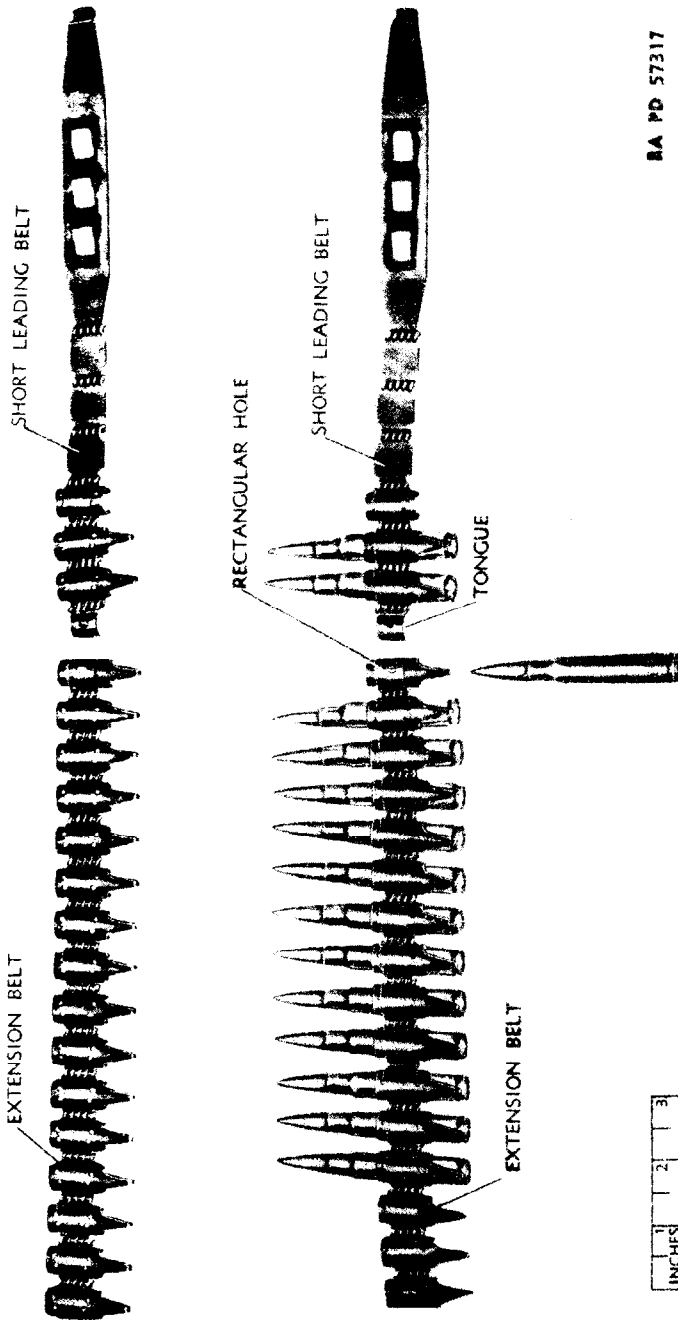

Figure 12 — Loading and Joining of Extension Belt and Short Leading Belt
(3) Instead of a 50-round leading belt, it is possible to join five 50-round extension belts to a short leading belt (fig. 12).
(4) If a short leading belt is not available, an extension belt (or belts) can still be used. However, when loading the belt, do not insert rounds in first three links.